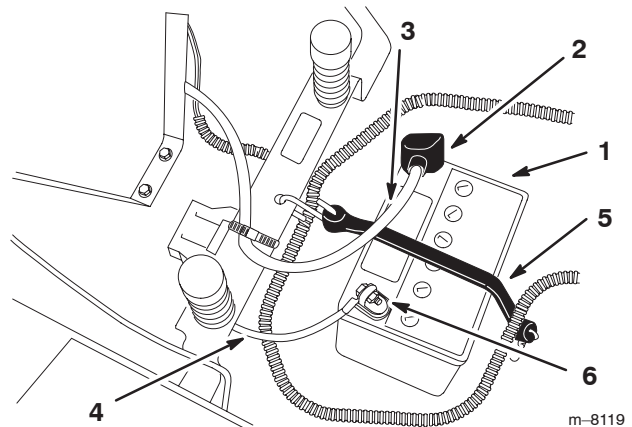

Figure 32
4. Disconnect the negative (black) ground cable from the battery post (Fig. 32).
5. Slide the rubber cover up the positive (red) cable. Disconnect the positive (red) cable from the battery post (Fig. 32).
6. Remove the battery hold-down (Fig. 32) and lift the battery from the battery tray.
1. Position the battery in the tray with the terminal posts away from the control panel (Fig. 32).
4. Secure the cables with 2 bolts (1/4 x 3/4 inch), washers (1/4 inch), and nuts (1/4 inch) (Fig. 32).
- Secure the battery with the hold-down (Fig. 32).